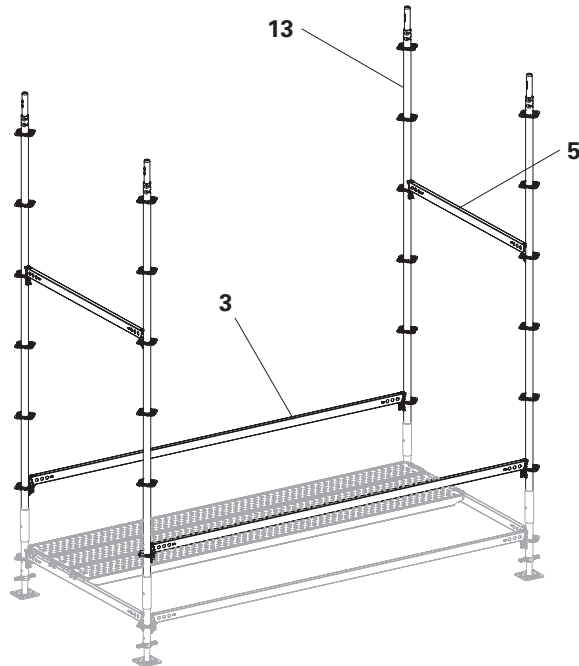

Fig. B3.07
3. Attach Horizontal Ledgers UH-2 300 (**3**) and secure wedges with hammer blow. (Fig. B3.07)